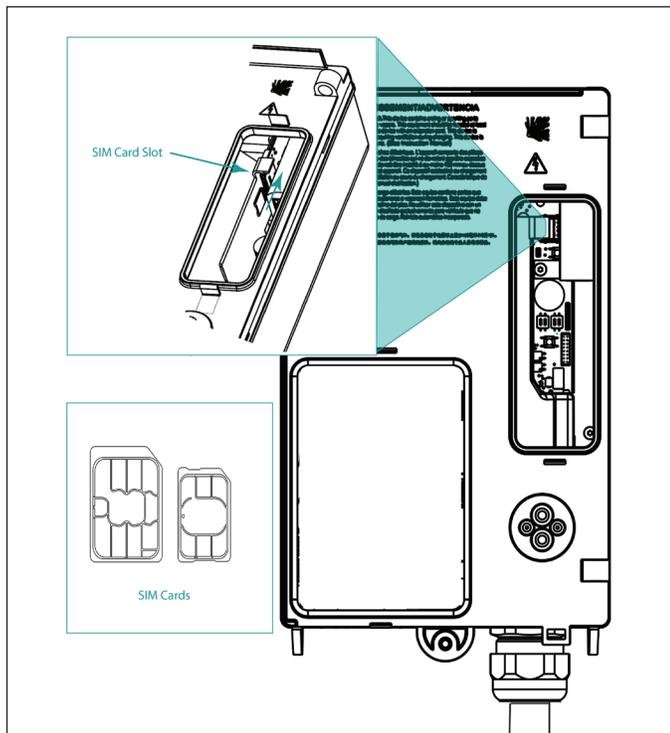

Figure 11. Sim card installation
1. Expose the area holding the SIM card hardware by unlatching the cover. The SIM card sits next to the Ethernet connection (see Figure 11 SIM card installation).